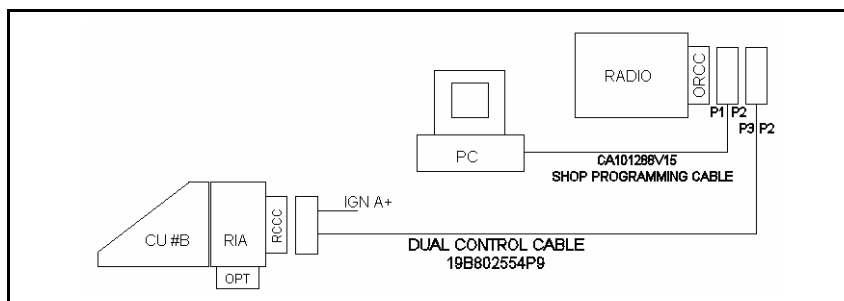

Figure 11-4: M7100 PC Programming Configuration Remote Mount
1. Connect the M7100 Remote Mount Radio with ProGrammer, as shown in Figure 11-4. Program the radio, using the shop programming cable CA101288V15, with the following parameters: